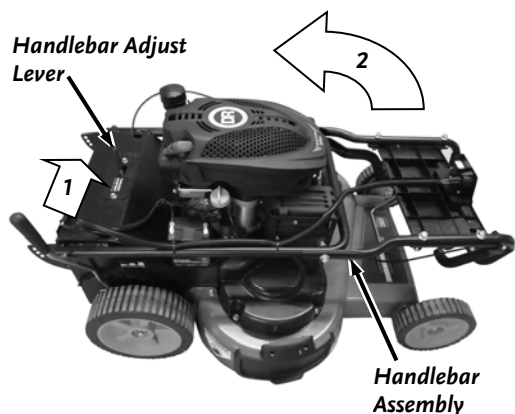

Figure 2
1. Move the Handlebar Adjust Lever to the left to release the Handlebar (**Figure 2**).